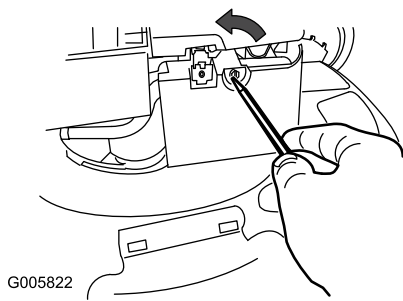

Figure 40
1. Use a screw driver to open the air filter cover (Figure 40).